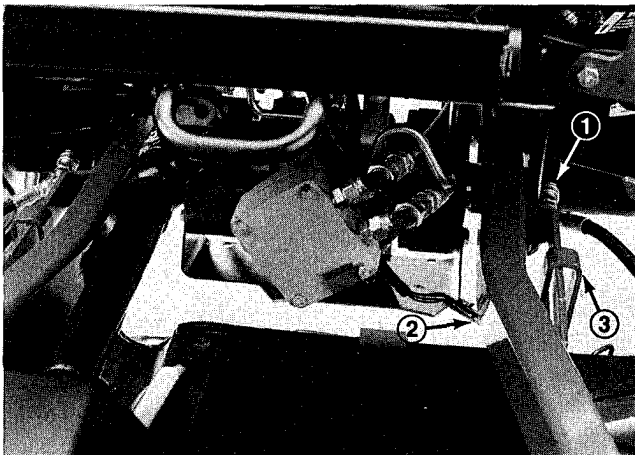

Figure 57
2. Disconnect (3) hydraulic lines (quick couplers) and wire harness at rear of deck (Fig. 57).
3. Remove hairpin cotters and H.O.C. pins securing rear deck straps to H.O.C. brackets on deck (Fig. 57).